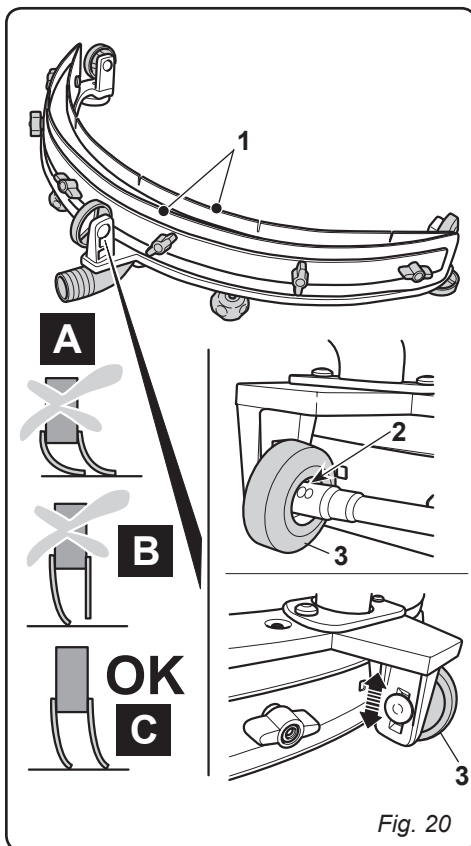

Fig. 20
11.1.g - Squeegee incidence set up (Fig. 20)
- Check the angle of incidence of the rubbers (1) on the floor.